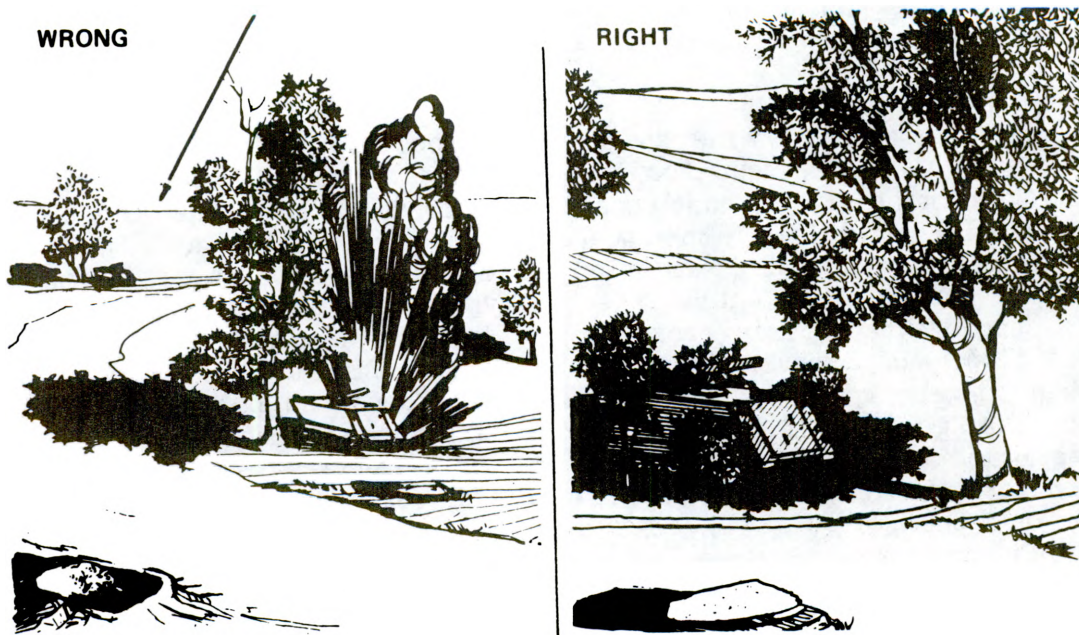

Figure 4. Use of shadows.
(4) At times, you may have to use shadows for concealment (fig. 4). When this happens, vehicles must be moved as the shadows shift. If a vehicle is located under a tree, and the shadows and foliage do not give enough concealment from the air, the vehicle should be camouflaged with branches.